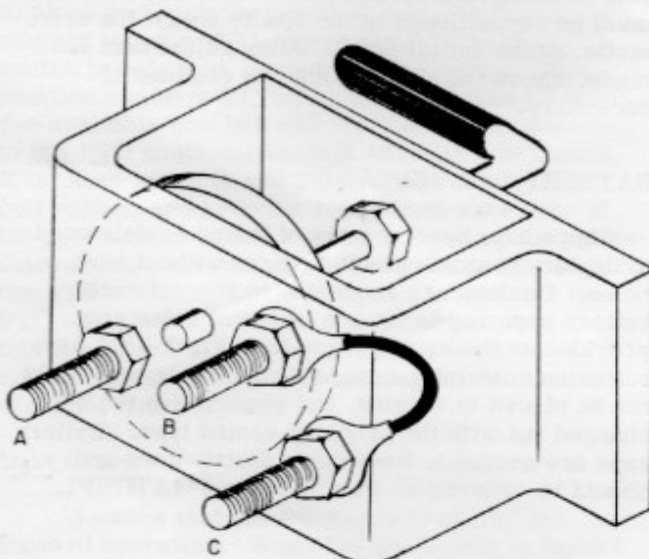
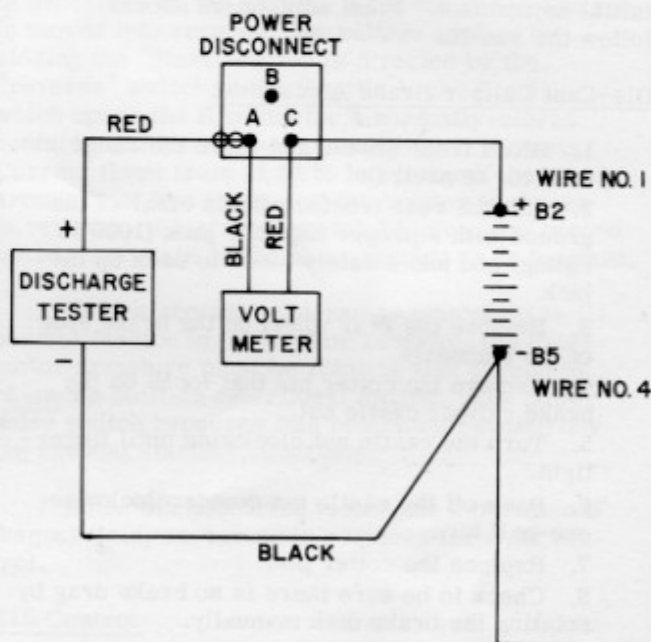

Fig. 1-12
Fig. 1-13
2. Connect the positive (red) cable clamp of the discharge tester to terminal A of the power disconnect. (See Fig. 1-12 for orientation, Fig. 1-13 for connection.)